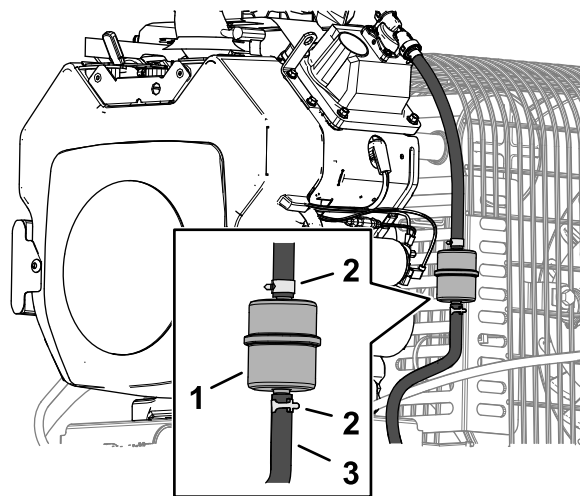

Figure 40
3. Squeeze the ends of the hose clamps together and slide them away from the filter (Figure 40).
5. Install a new filter and move the hose clamps close to the filter (Figure 40).
3. Loosen the hose clamp at the fuel filter and slide it up the fuel line away from the fuel filter (Figure 40).
4. Disconnect the fuel line from the fuel filter (Figure 40).
Note: Allow fuel to drain into a fuel container can or drain pan (Figure 40).
5. Install the fuel line onto the fuel filter. Slide the hose clamp close to the fuel filter to secure the fuel line (Figure 40).